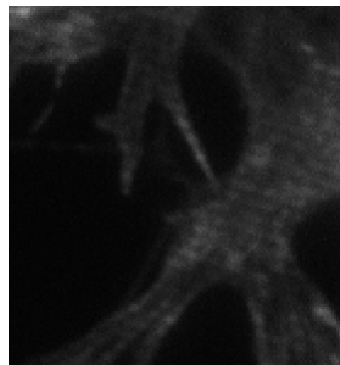
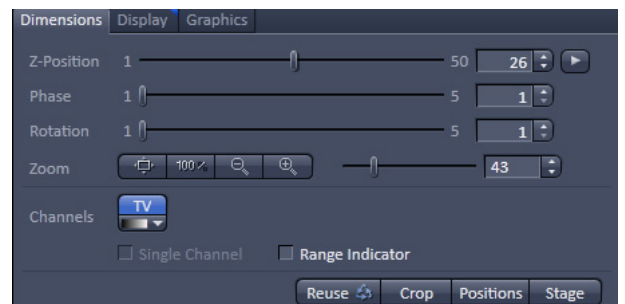

Fig. 34 Image with grid pattern
Fig. 35 Dimensions view control tab for a raw SIM image
- The set up should be such that the grid can be seen during image acquisition (Fig. 34). It might help to change the phase and rotation by moving the corresponding sliders in **Dimensions** view control tab of the original image (Fig. 35). If the grid cannot be seen, resolution enhancement will be limited. In case no grid is seen, it might help to switch to the grid with the next higher spacing.